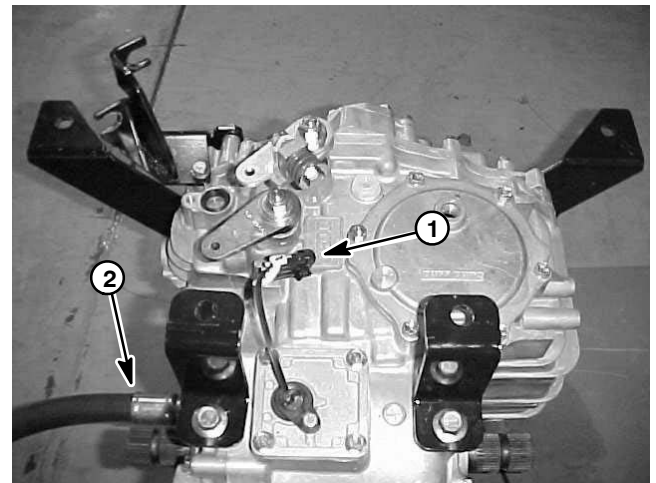
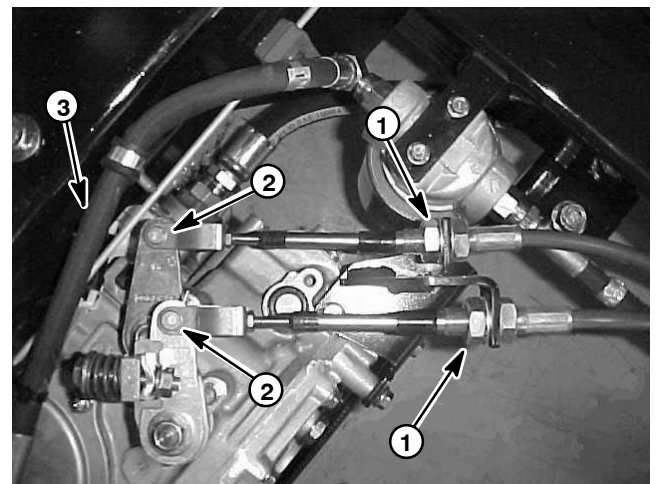
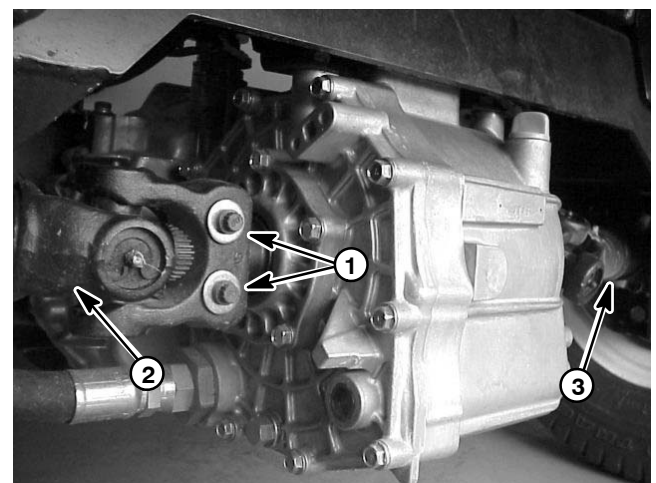

Figure 25
Figure 26
Figure 27
5. Unplug speed sensor connector from machine wire harness (Fig. 25).
6. Label shift cables to ease reassembly. Loosen shift cable jam nuts at cable mount (Fig. 26). Remove cotter pin and clevis pin that attach shift cable ends to transaxle shift arm levers. Pull shift cables free from mount.
8. Disconnect hydraulic return hose from top of transaxle (Fig. 26). Locate, remove, and discard hose o-ring.
9. Disconnect suction hose from transaxle (Fig. 25). Locate, remove, and discard suction hose o-ring. Position suction hose away from transaxle.
11. Remove two (2) R-clamps that secure LH parking brake cable to front transaxle mount.
13. Loosen and remove cap screws, hardened washers, and lock nuts that secure driveshafts (both right and left sides) to transaxle axle shafts (Fig. 27). Remove both driveshafts from machine.
- E. Install cap screws, hardened washers, and lock nuts to secure driveshafts to transaxle axle shafts (Fig. 27).
7. Secure LH parking brake cable to front transaxle mount with two (2) R-clamps.
10. Position shift cables to cable mount noting cable identification made during disassembly. Center the cable threads to the cable mounts and secure cables with jam nuts (Fig. 26).
13. Plug speed sensor connector into wire harness (Fig. 25).